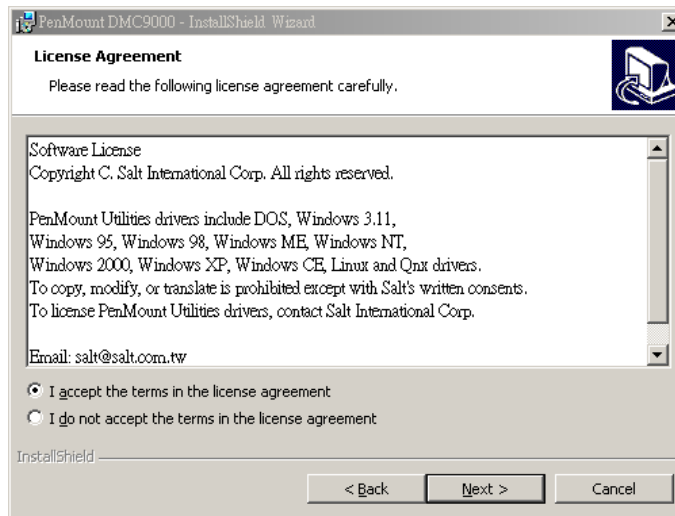

Figure 7-26: License Agreement
Step 4: The license agreement shown in **Figure 7-26** appears. Agree to the license by selecting “I accept the terms in the license agreement”.